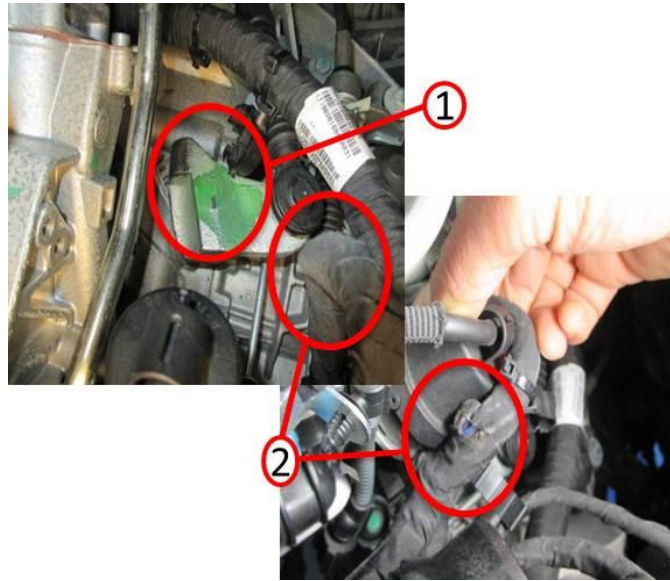
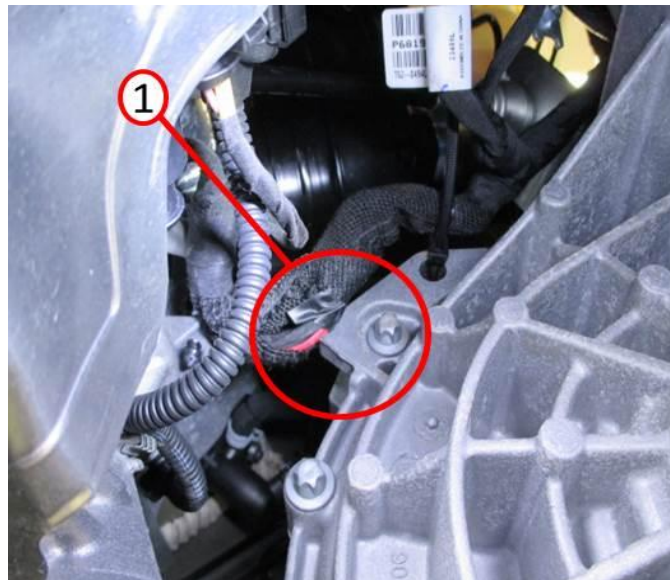

Fig. 3 Contact Areas
Fig. 4 Contact At Trans
2. Inspect the wiring harness at these locations for rub through or chaffing of the wires, (Fig. 3) & (Fig. 4).